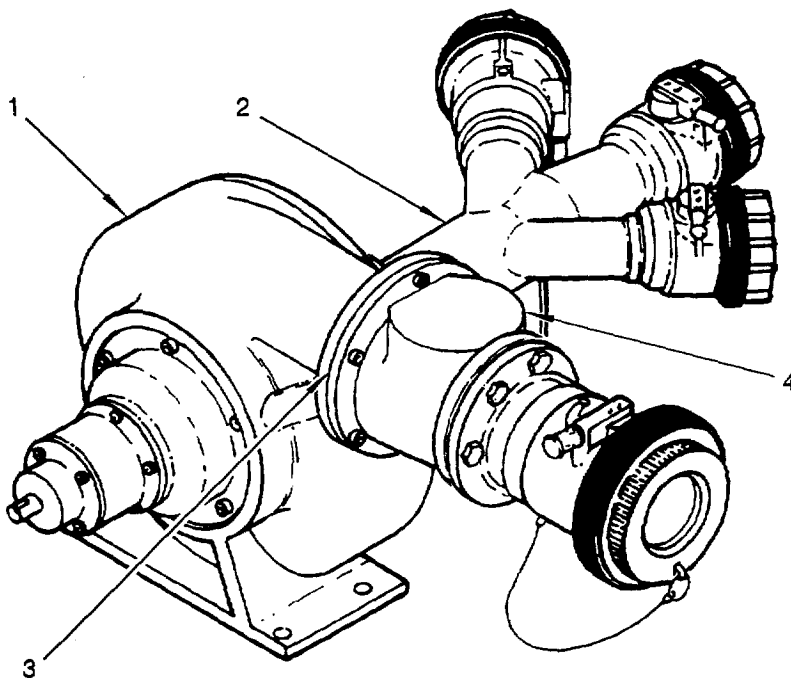

Figure 1-6. Fuel Transfer Pump
1.11.2 Fuel Transfer Pump. (Refer to figure 1-6.)